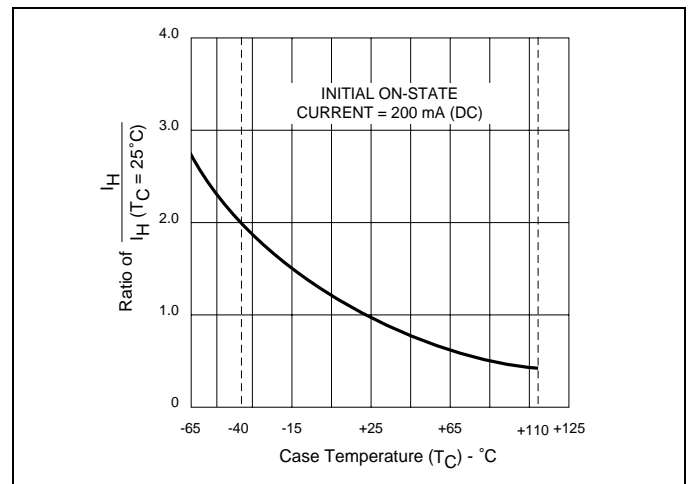

Figure 1.5 Normalized DC Holding Current vs Case Temperature
- See Figure 1.5 for  $I_H$  vs  $T_C$ .